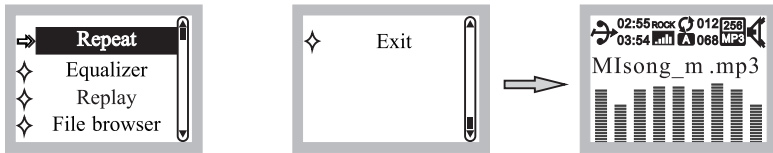

Fig. 11
(D) Panel Operating Instructions: During track playing, press & hold PLAY/PAUSE  button to enter music parameter selection for changes. Press PLAY/PAUSE button and then press PRV/TEN  or NEXT/ TEN  to locate the desired parameter. Press PLAY/PAUSE to confirm change and save, Fig. 11.